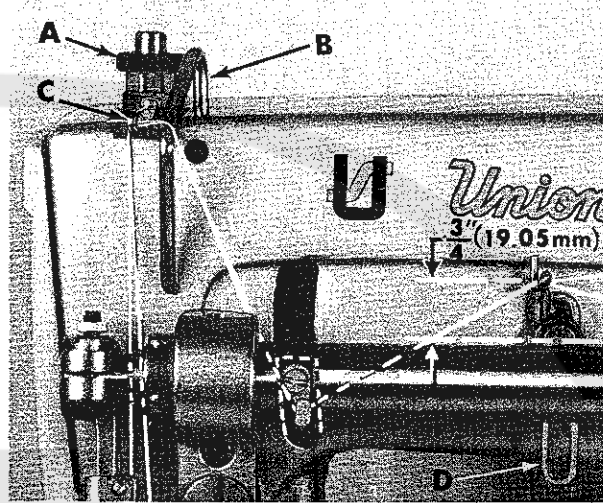

Fig. 13
Regulate the presser spring regulating screw (A, Fig. 13) so that it exerts only enough pressure on the presser foot to feed the work uniformly when a slight tension is placed on the fabric. This is the knurled screw, located directly behind the needle bar in the head of the machine. Turning it clockwise increases the pressure, counterclockwise acts the reverse.
Set the needle thread take-up wire (B, Fig. 13) located adjacent to the needle bar thread eyelet (C) so that its upper surface is even with the top of the hole in the needle bar thread eyelet when the needle bar has completed its downward stroke. Lower this setting for a smaller needle thread loop, or raise it for a larger loop. Set the needle thread frame eyelet (D) as high as possible without pulling thread through the tensions on the down stroke of the needle bar, yet so all thread is pulled through the tension post eyelet when the needle bar has completed its upward stroke. A good starting point is to have the needle thread frame eyelet hole $\frac{3}{4}$ inch (19.05 mm) above the center of the attaching screw.